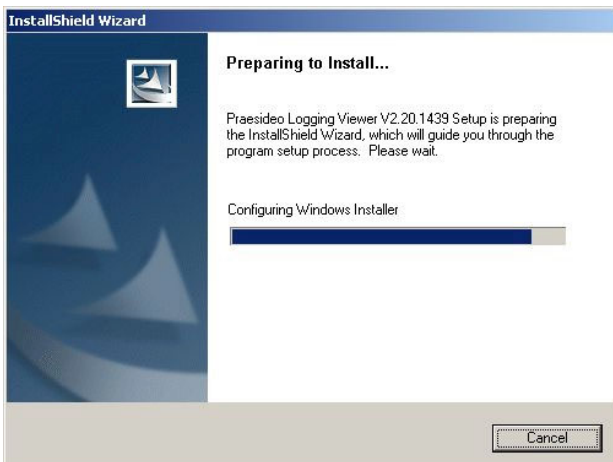

figure 57.1: Logging viewer setup
- 3 Click the *Open* button to start the setup program of the *Logging Viewer*. A screen similar to the one in figure 57.1 appears.